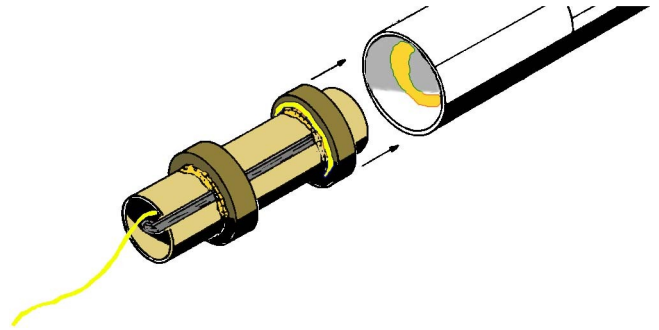

Figure 4
- **Step 11** Push the long end of the Kevlar thread down through the center of the mount from the top. As shown in Figure 4, apply a generous bead of glue up inside the bottom end of the main body tube, about 2" up from the edge. Insert the motor mount into the main body tube, aligning the hook with the launch lug alignment line, and push forward with one continuous motion until the bottom edge of the motor tube is even with the bottom edge of the body tube. Do not hesitate or stop during this operation, or the glue will freeze the mount in the wrong place. Set the body tube in an upright position and allow the glue to dry (about an hour). Invert the tube and apply a thinned bead of glue around the joint between the "A" ring and the body tube, filling any gaps that might show. Allow this to dry (about 30 minutes).